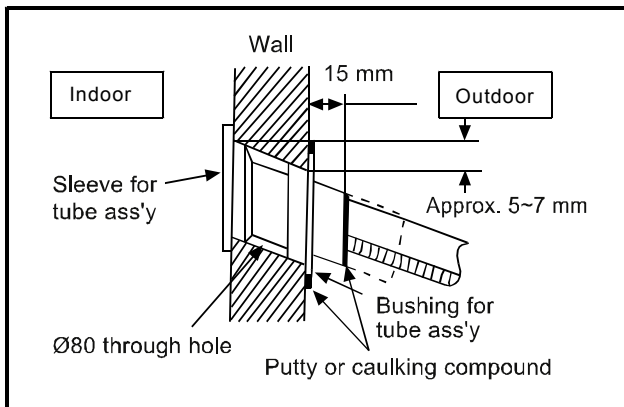

Fig.7
1. Drill a hole as the right figure.(Fig7)